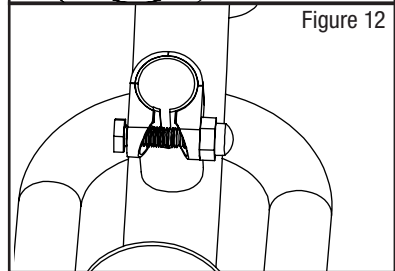

Figure 12
- Loosen hex nut on keyed bolt of seat clamp (Figure 12).